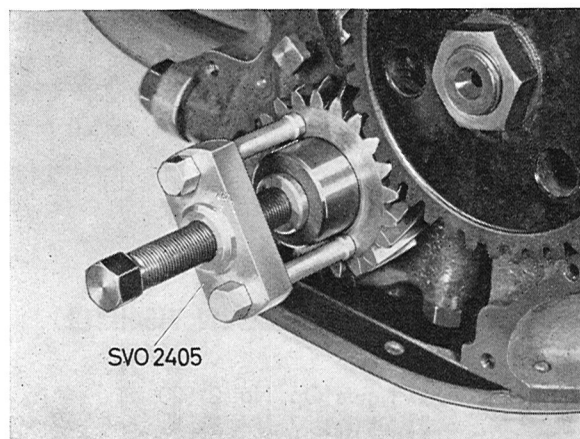
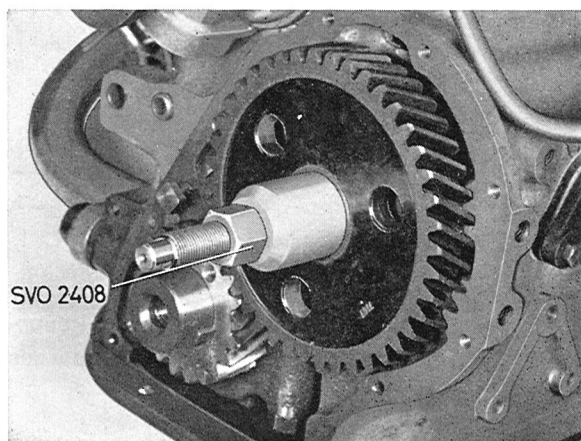

Fig. 2-52. Removing crankshaft gear
Fig. 2-54. Installing camshaft gear
5. Pull off the crankshaft gear by using puller 2405, Fig. 2-52. Screw out the oil nozzle, blow it clean and then re-install it as shown in Fig. 2-54. The gears are lubricated by oil fed through this nozzle.